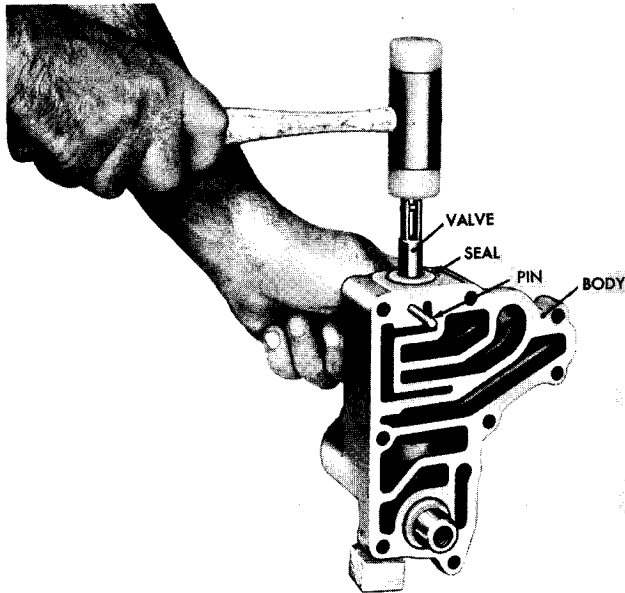

Fig. VIII-17 Removing hydraulic retarder valve seal
(1) Using vise-grip pliers, twist lubrication regulator valve retainer 10 out of retarder control valve body 7.
(2) Remove lubrication regulator valve spring 9 and regulator valve (steel) ball 8.
(3) Drive out retarder valve retaining pin 11.
(4) Strike the retarder valve stem several sharp blows with a mallet. The rebound of the valve, after being driven against its spring, will force out the oil seal (fig. VIII-17).